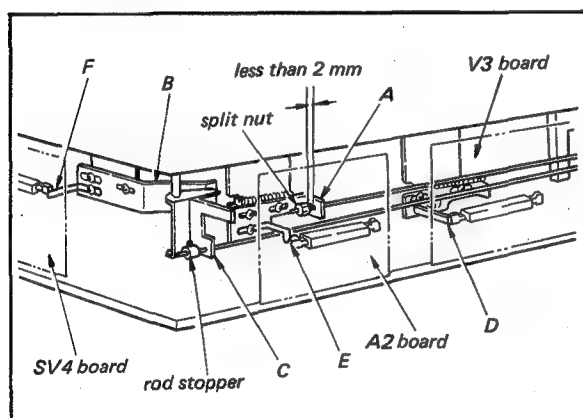

Fig. 4-27. Record button latching adjustment
2. Push the AUDIO DUB button. Check that the slide switch on the A2 circuit board is actuated. Refer to Fig. 4-27.